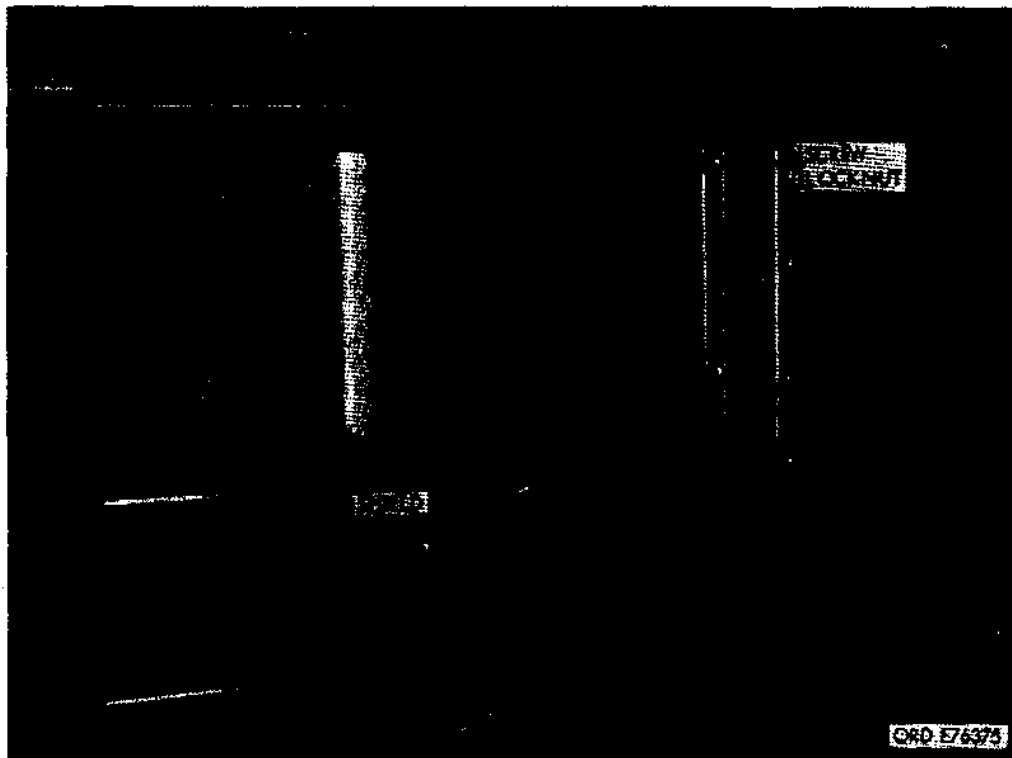

Figure 692. Installation of pump shield.
- (1) Place shield 10932116 over the fuel pump, aligning shield holes with holes drilled in tool compartment side and back.
- (2) Fasten shield in place using four $\frac{1}{4}$ -28 x $\frac{1}{2}$ screws MS 96906-35207-279 and locking nuts MS 96906-51922-5 (Fig. 692).